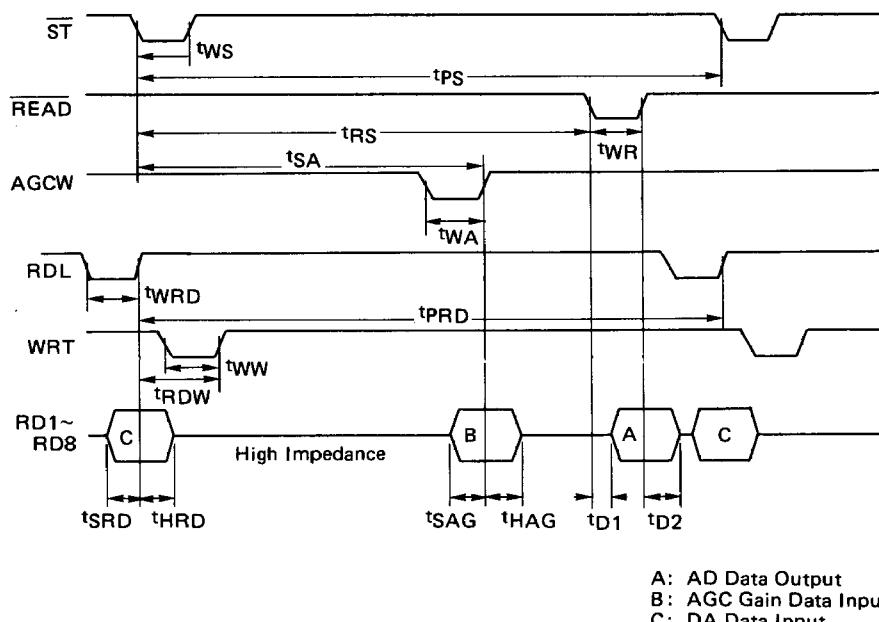

Figure 3 Transmit and Receive Data Timing Chart
**NOTE)** Figure 3 shows the timing when transmit, receive and AGC data are interfaced via RD1 through RD8 as a common data bus.